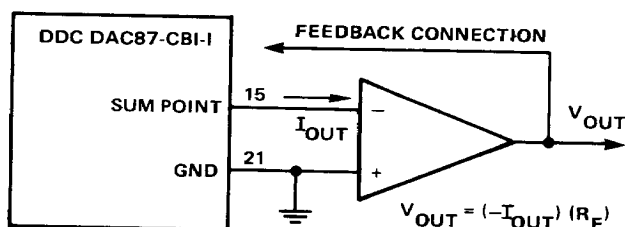

FIGURE 7. CONNECTIONS FOR EXTERNAL OP-AMP USING INTERNAL FEEDBACK RESISTOR
2. External Op-Amp Using Internal Feedback Resistors. Figure 7 shows how to connect an external op-amp to the DDC DAC87-CBI-I when the internal feedback resistors are used. Pin connections for various voltage ranges are as follows: